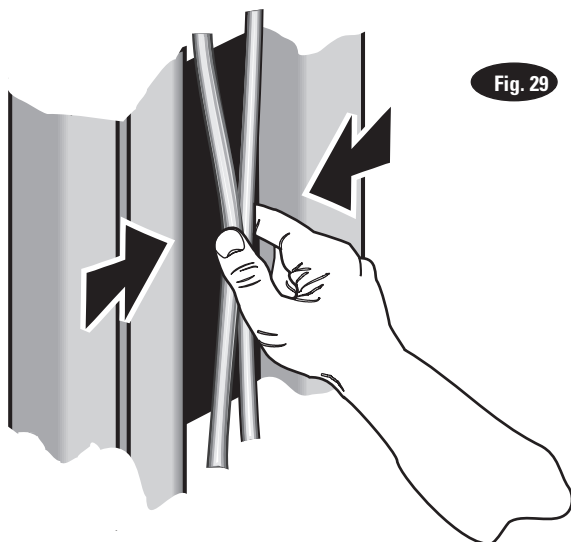

Fig. 29
22. Equalizer Cable Adjustment: Raise lift to check equalizer cable tension. Below carriage, grasp adjacent cables between thumb and forefinger, with about 15 lbs. effort you should just pull the cables together, Fig. 29. Adjust at upper tie-offs Fig. 15.